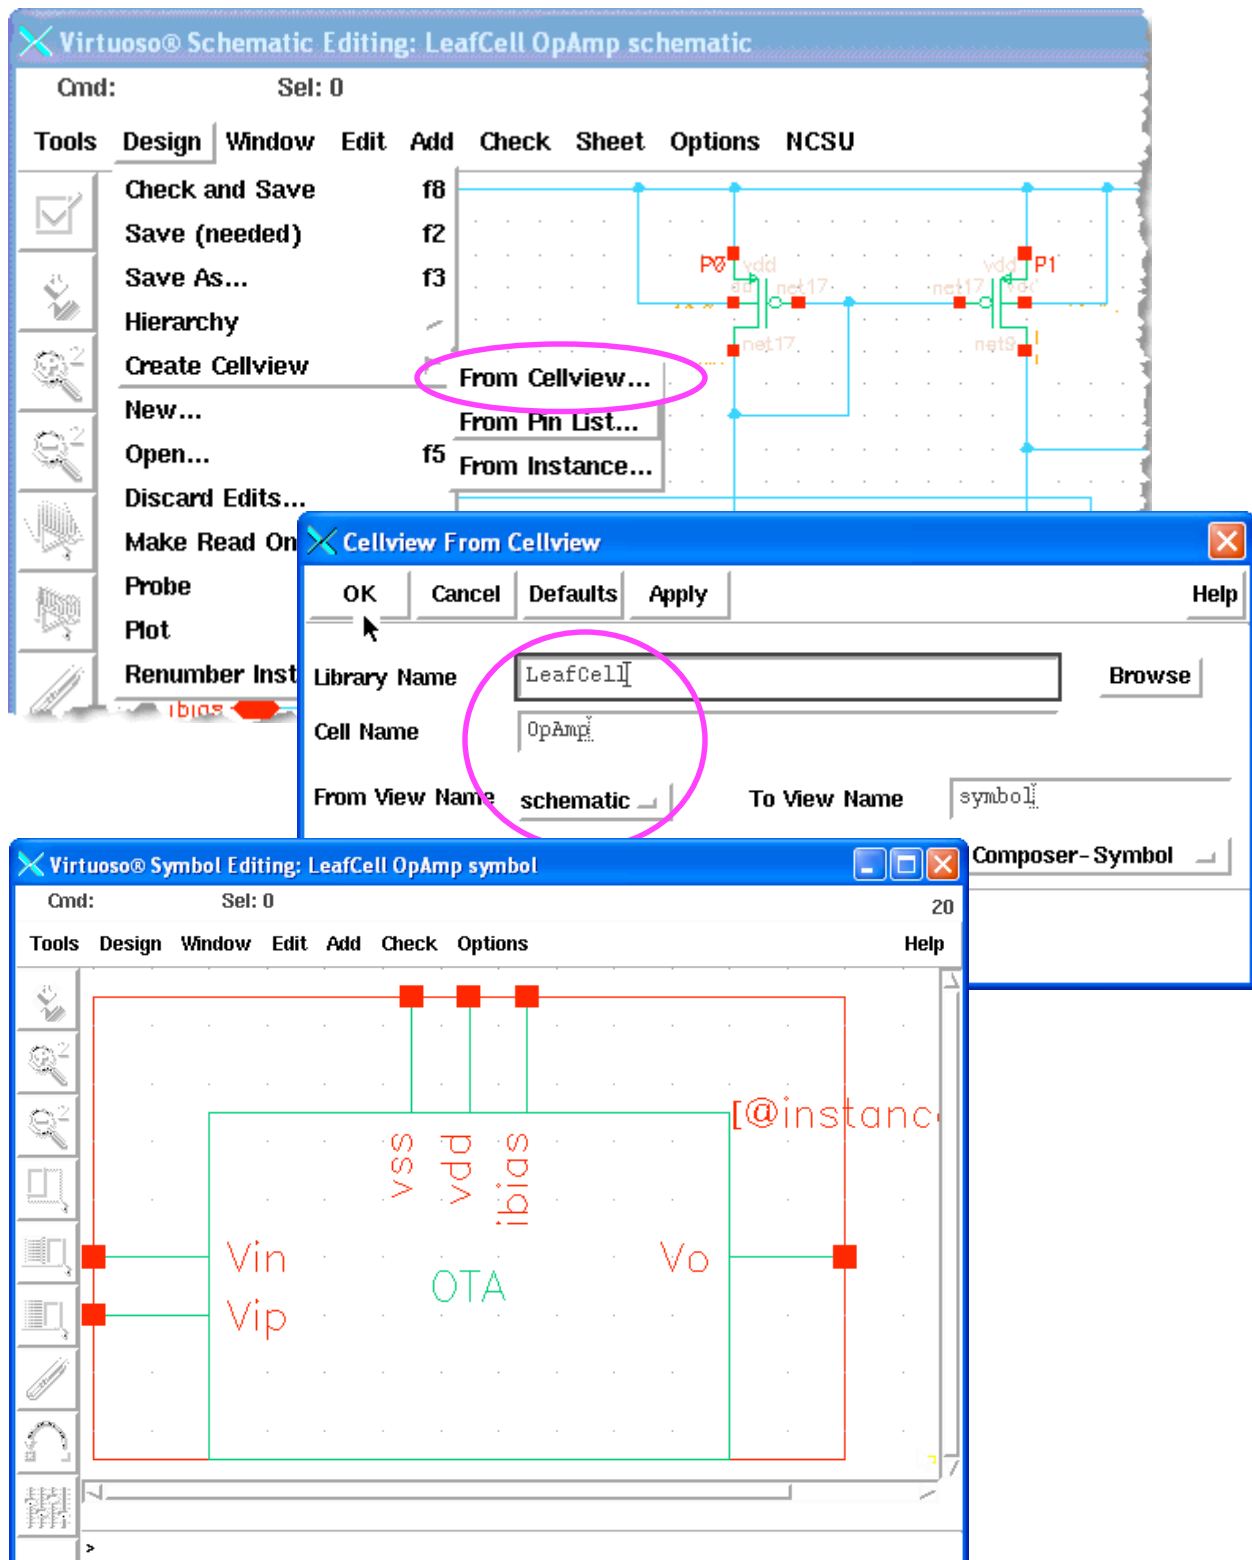

Figure 138: Creating the symbol view from schematic cell view.
5. Creating the symbol view from the schematic cell view (Figure 138):